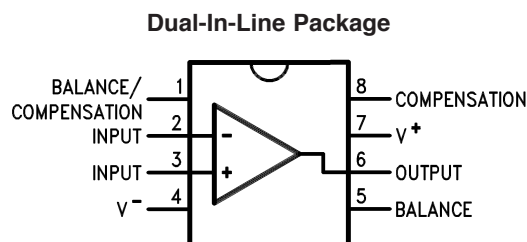

Figure 1 - Pin-out for the LM301 op-amp chip.
Please refer to the pin out diagram shown below in Fig. 1 to aid you in the construction of your circuit.
1. Copy the pin-out shown in Fig. 1 into your lab notebook.
6. Give power to the amplifier IC by connecting the -10V column to the V- pin and the +10V column to the V+ pin. (Refer to pin-out in Fig. 1.)
17. Compare the circuit on your breadboard to the circuit in Figures 1 and 2. Check to make sure that it is